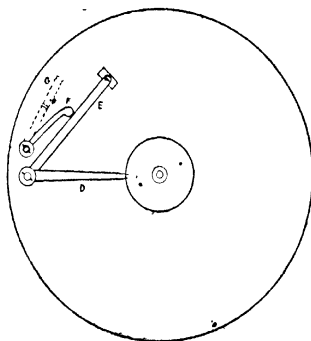

FIG. 81.—French Locking-plate Mechanism (Front Plate).
**Locking Plate.**—Fig. 81 shows the mechanism on the